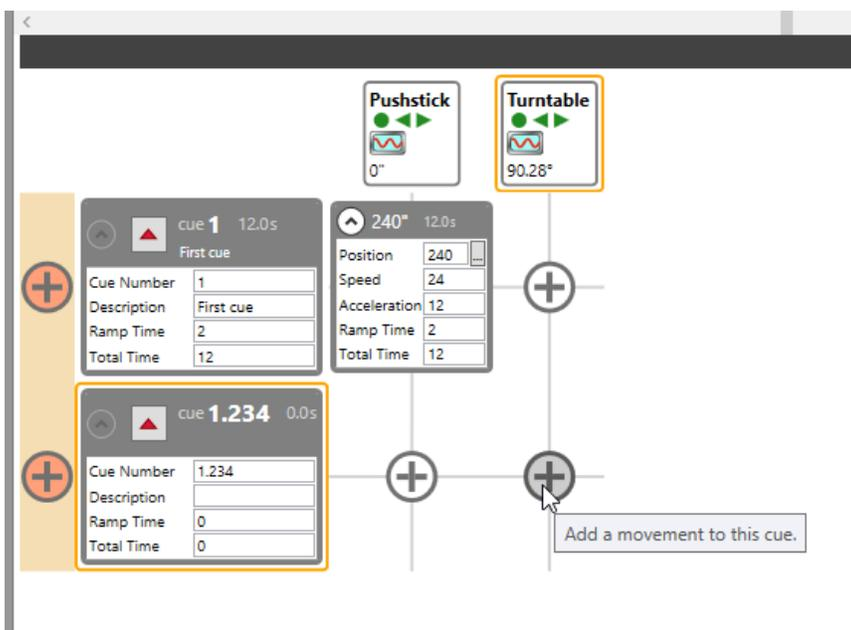
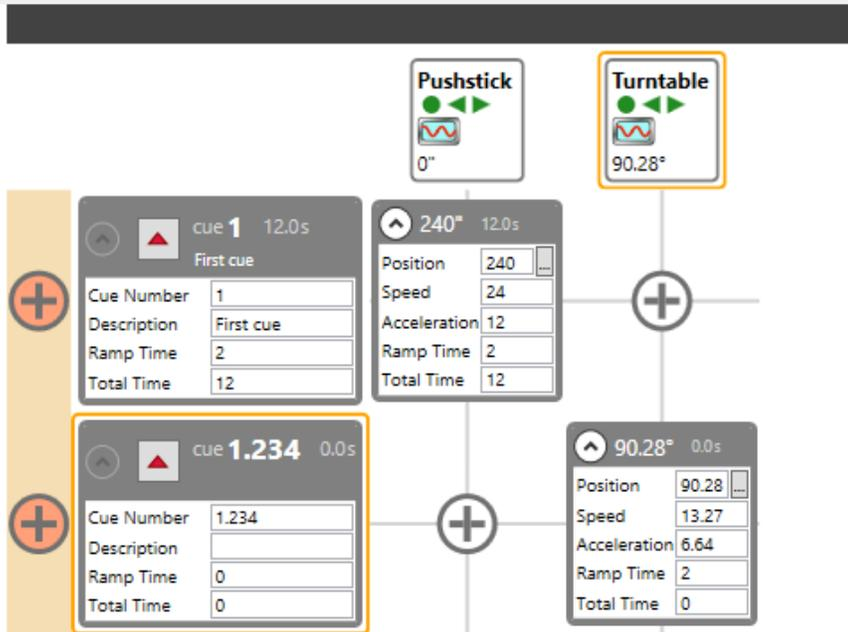

Figure 44
Figure 45
- With the *Turntable* in a position we want to record, add a *Turntable* movement to *Cue 1.234* by clicking on the “+” button at the intersection of *Turntable* and *Cue 1.234* (Figure 44). Notice that Spikemark records the current position of the *Turntable* as the target position for the movement (Figure 45). This makes it easy to position all your scenery on stage manually, and then record the scene as a cue. You are free to tweak the **Position** anytime, but for now let’s just leave it.